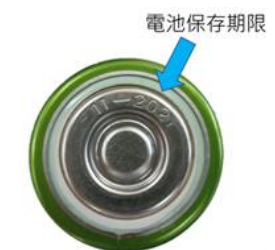

Figure 5 The expiry date of the battery.
E. Syntec Waterproof Cell Box should use D LR20 batteries. Do not use other types of batteries. Notice the expiry date of the batteries. If the batteries are about to expire within a year, they cannot be used. The expiry date of batteries can be observed at the cathode as the arrow indicated in Figure 5.